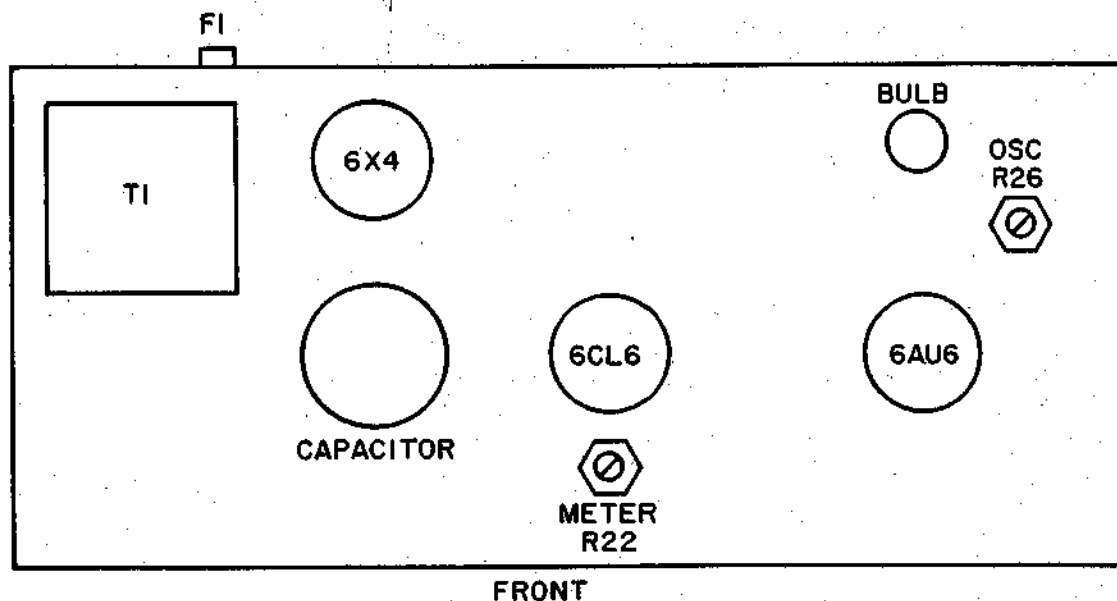

FIGURE 2
- b. Set oscillator control R26 and meter control R22 at their approximate mid-range position (see Figure 2).
- f. Adjust R22 (Figure 2) for a 6.3 VRMS indication on the meter (1-1/2 divisions above .6 on the meter upper scale).
- Rotate oscillator control **R26** (See Figure 2) for slightly more than full-scale meter indication.